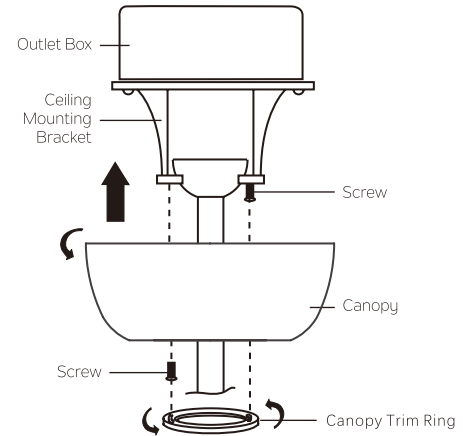

Fig. 14
Step 2. Slide the canopy up to the mounting bracket and place one of the key hole slots over the mounting screw on the mounting bracket. Rotate the canopy until the screw head locks in place at the narrow section of the key hole. See figure 14.
NOTE: Adjust the canopy screws as necessary until the canopy and canopy trim ring are snug. (Fig. 14)